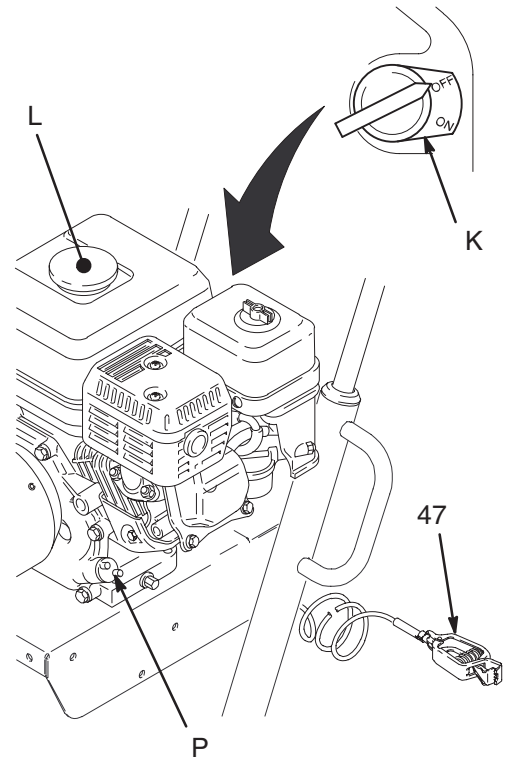

Fig. 3
4. **Check the engine oil level.** Refer to the Honda engine manual, supplied. This is a summary of the information: Remove one of the oil fill plugs (P); the oil should be almost overflowing. See Fig. 3. Add oil as necessary.